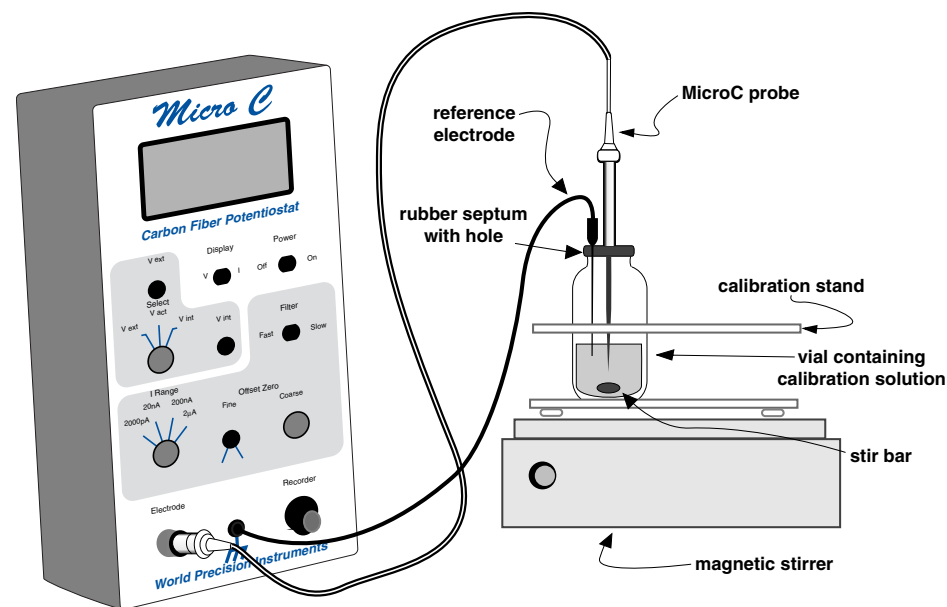

Figure 4 – Calibration setup
**(b)** Check the grounding and shielding of the setup, make they are all attached to the ground of MicroC. See Figure 4.
The calibration setup is shown in Figure 4. If a plastic magnetic stirrer is used, it should be shielded by wrapping a cover of aluminum foil around it. The foil should also be electrically connected to the ground of the MicroC meter in order to reduce the the interference of motor noise. In addition, the slow filter should be selected during the calibration procedure. It is important to note that an electrode should be reactivated for the calibration procedure if it was activated before the experiment.